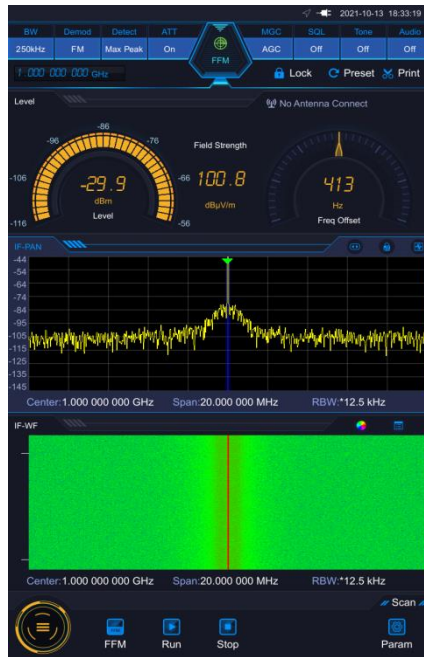

Fig. 3.16 Sinusoidal Signal Measurement Results
- 3) Set the center frequency of the test receiver. Select the spectrogram window and set the center frequency of 1GHz, the bandwidth of 20MHz and the resolution of 12.5kHz. At this time, the level and frequency offset values can be observed in the level field strength window. If the antenna is connected and the corresponding antenna factor is introduced, the field strength value can also be obtained. The 1GHz signal spectrum should be observed in the intermediate frequency panoramic window, as shown in Fig. 3.16.